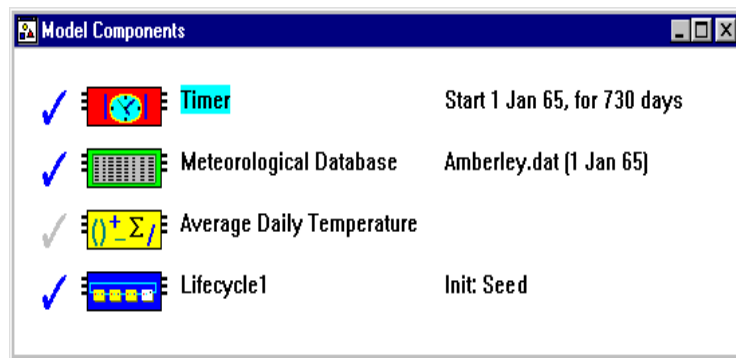

Figure 5.3 Model Components window
Once the file is loaded into the DYMEX Simulator, a 'Model Components' window appears (Figure 5.3). Although a tick appears beside the Meteorological Database module, it must still be altered in order to provide the rainfall information required by the Simulator.
2. Select the '**Meteorological Database (Gen-weed)**' button in the 'Model Components' (fig 5.3) window followed by '**Initialise Variable Manger**' from the drop-down menu;